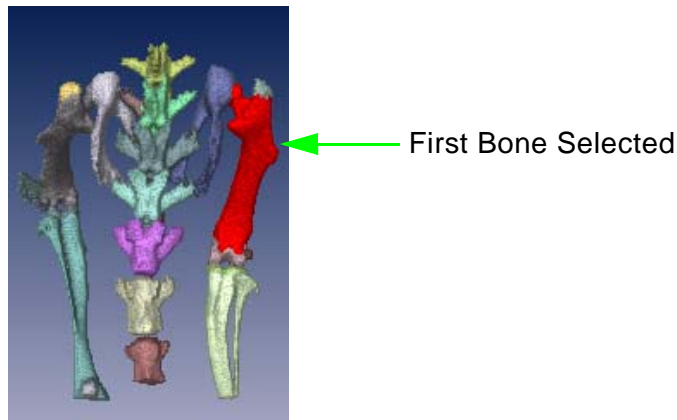

Figure 42. First Bone to be Joined Turns Red
- 4 Shift -click the first bone. The bone turns red. See Figure 42.